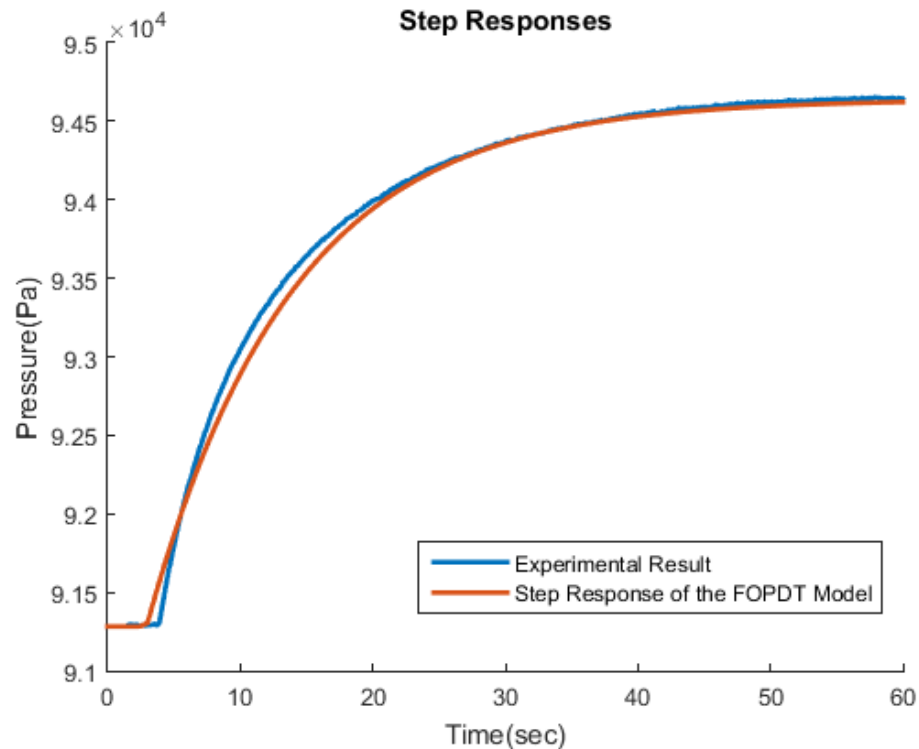

Figure 7: Example Bump Test Response
22. You should be able to see a plot like in Figure 7. Save the plot.